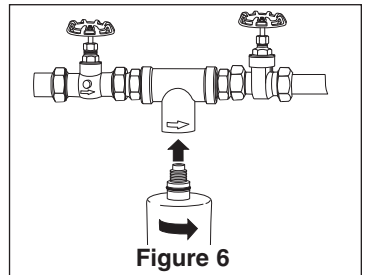

Figure 6
- Screw cartridge to the right into the AP430SS filter head. Turn on main water supply, open valves and check for leaks. (Figure 6)